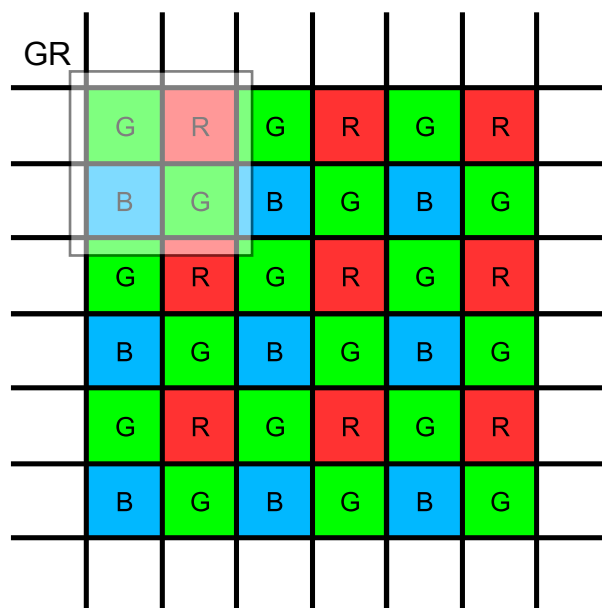
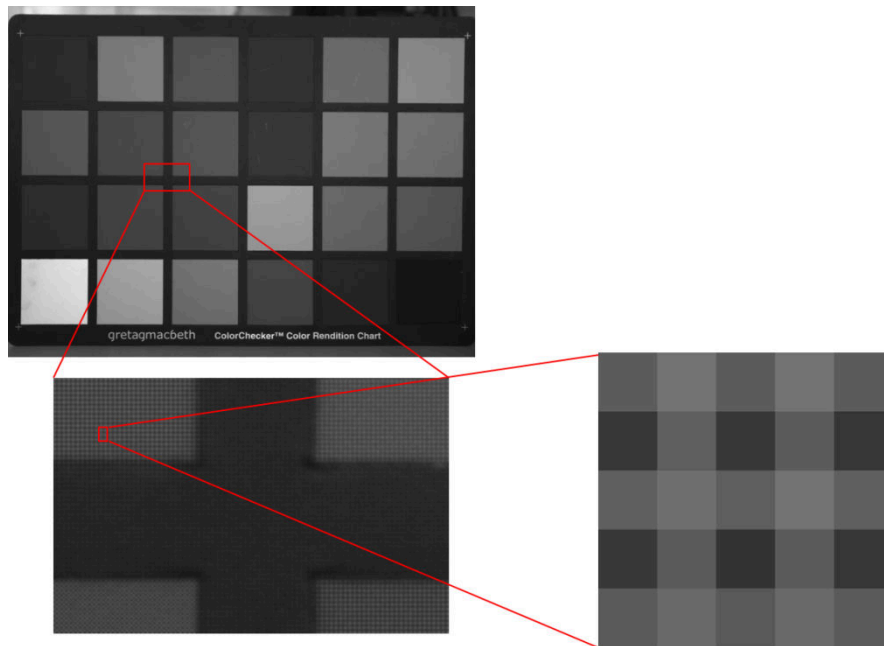

Figure 131: Bayer Filter Pattern GR
Figure 132: Raw image overlaid with a Bayer pattern
Each pixel on a digital camera sensor contains a light sensitive photo diode which measures the amount of incoming light. As photodiodes are monochromatic devices, they are unable to determine the distribution of the incoming light to different wavelengths. A common way to distinguish between different light wavelengths or colors is to place an array of color filters (*Color Filter Array*; CFA) on top of the sensor to filter out for example the red, green, and blue components of light falling onto it. Among many CFA patterns, the most commonly used is the Bayer pattern. For each 2×2 set of pixels, two diagonally opposed pixels are equipped with filters which are only transmissive for green, the other two only for red and blue. Since green carries most of the luminance information for the human eye, its sampling rate is twice as that of R and B. Figure 131 shows the "GR" filter alignment, which means that the pattern starts with green (G) followed by red (R).
The illustration in Figure 131 is for demonstration purposes only. In effect, each pixel is described by an intensity value, which appears gray to the human eye, shown in Figure 132.
Figure 132 shows a raw image from a color camera. If it is zoomed into the image, the Bayer pattern gets more and more visible. Each pixel represents an intensity value, to reconstruct a full color image from the incomplete color samples, the missing color information at each pixel has to be interpolated. The interpolation process has several different names like *Color Filter Array Interpolation*, *Demosaicing* or *Debayering*. The reconstructed image is typically accurate in uniform-colored areas, but has a loss of resolution especially at structures and edges.